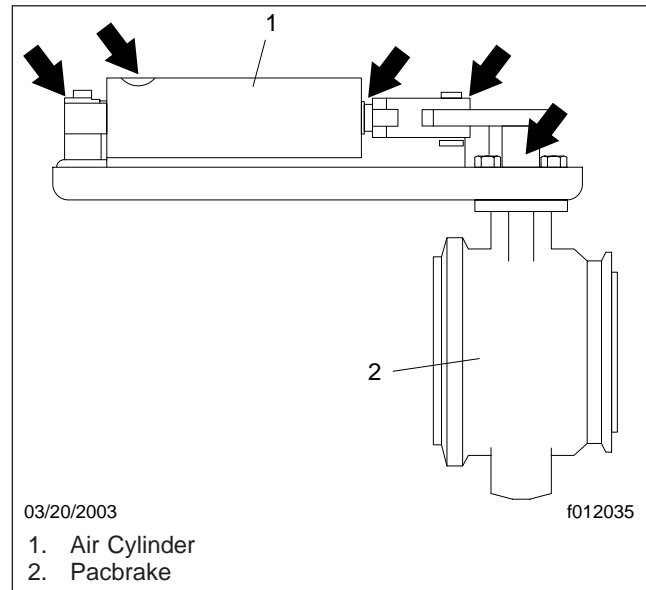

Fig. 5, Pacbrake Exhaust Brake Lube Point Locations
1. With the engine turned off, use Pacbrake Synthetic Lube or Synco Super Lube, and spray or coat a sufficient amount on the restricter air cylinder valve shaft and the attaching locations at each end of the actuation cylinder. See Fig. 5 for the exhaust brake lubrication points.